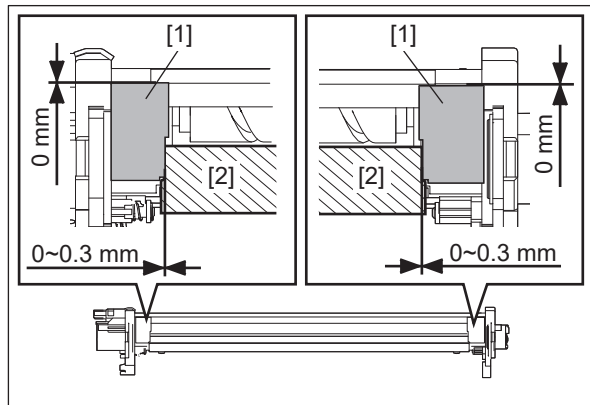
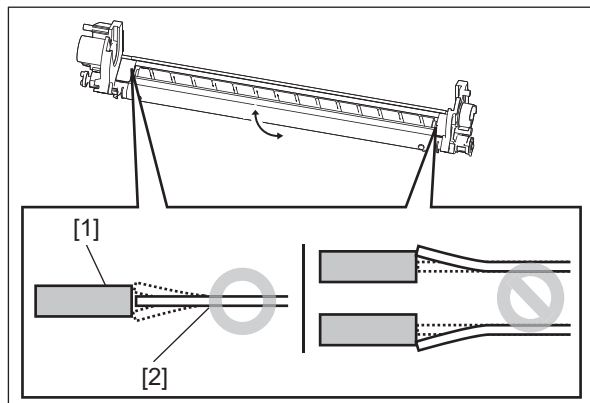

Fig. 4-322
Fig. 4-323
- If not in accordance with  P. 4-128 “Fig. 4-322 ” and  P. 4-128 “Fig. 4-323 ” of “ P. 4-127 “4.6.5 Blade side seal””.